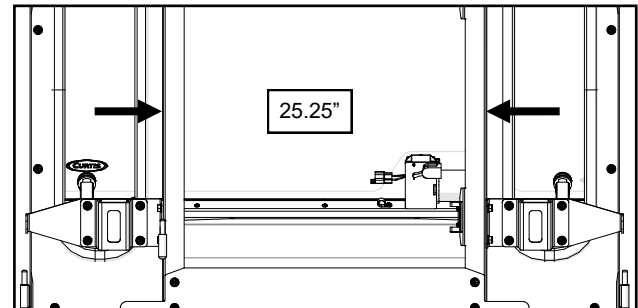

Fig. 16.1 (Measure Rear Legs Left to Right)
- 16.1** Measure the back of the rear legs, outside to outside, and adjust the width to 25.25". Measure corner to corner for squareness, and tighten the (6) sets of screws and nuts to lock in this width. See figure 16.1